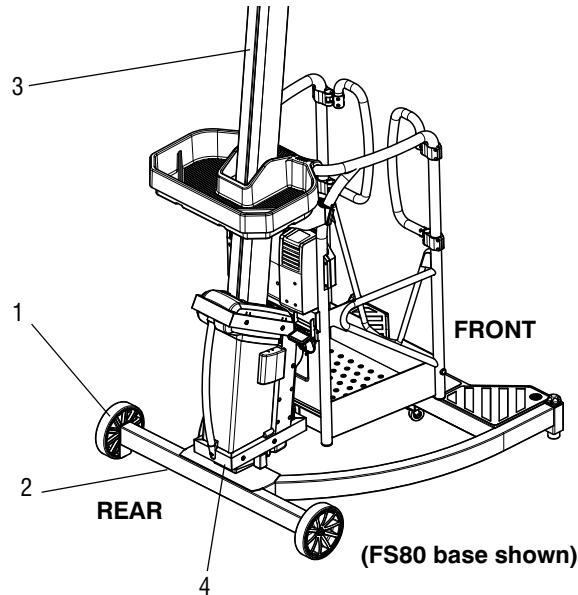

Figure 2-1. Daily Walk-Around Inspection
Begin the Walk-Around Inspection at item one (1) as noted on the diagram Figure 2-1. Continue around machine checking each item in sequence for the conditions listed in the following check list.